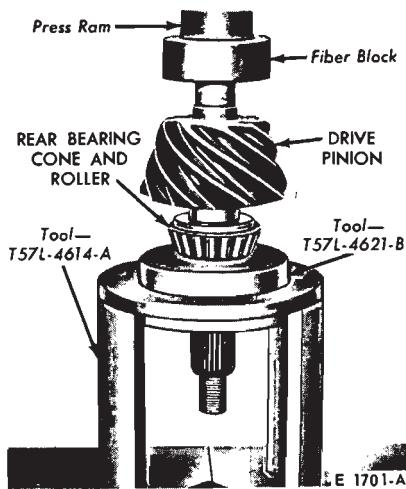

FIG. 36—Installing Pinion Rear Bearing Cone
1. Install the drive pinion rear bearing cone and roller on the pinion shaft (Figs. 36 or 37). Place a new spacer on the pinion shaft (Fig. 38).
1. Install the drive pinion rear bearing cone and roller assembly on the pinion shaft as shown in Figs. 36 and 37.